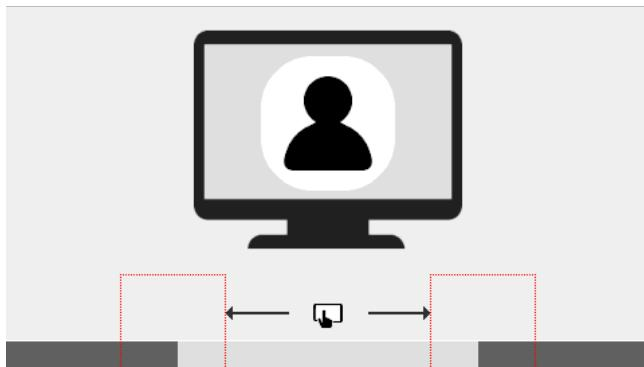

Fig. 5-11: The device displays this lock screen when remote operation is active
- When a remote operation panel is active, the local user can cancel the remote access at any time by pressing left and right function key simultaneously. (⇒ Fig. 5-11, p. 59)
(no icon)	A lock screen is displayed, hiding the actual device display. No operation is possible with one exception: The local user can cancel the remote access by pressing the left and right function key simultaneously (⇒ Fig. 5-11, p. 59).